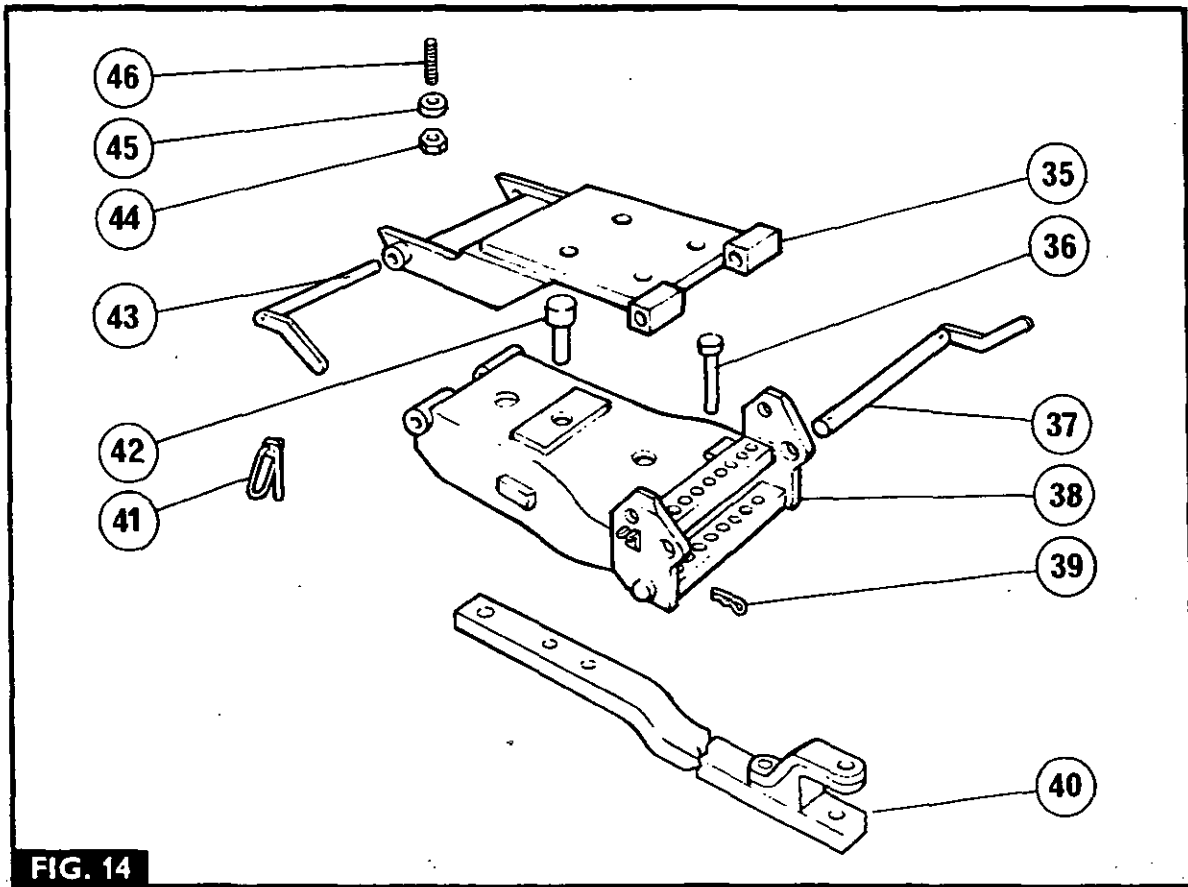
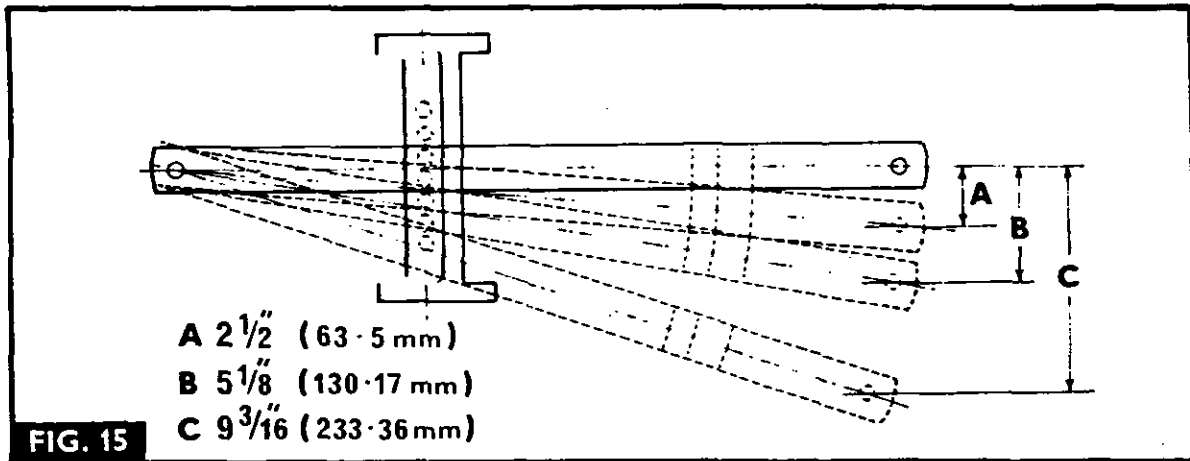
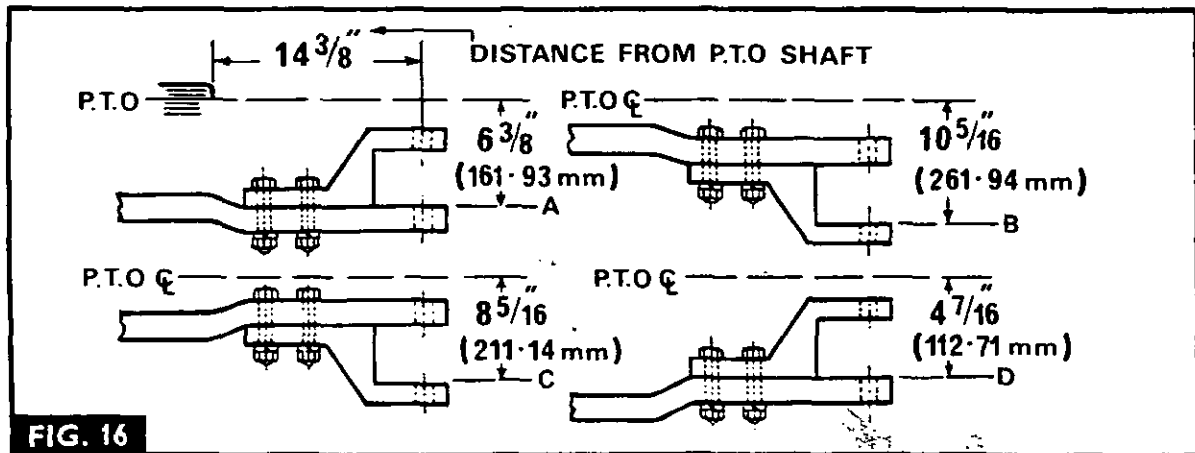

FIG. 14
FIG. 15
FIG. 16
3. Fig 14. Screw the  $\frac{3}{4}$  UNC ends of the four studs (46) fully into the tapped holes in the centre housing.
5. Fig 15. Slide the drawbar assembly (40) into the mounting frame (38), fitting the drawbar pin (42), the locating pins (36) and the hairpins (39).
6. Place the mounting frame and drawbar assembly on a jack and raise it into position secure it with the front support pin (43) and the rear pin (37), securing them with a linch pin (41).
**Offset:** Fig. 14 and 15 Remove the linch pin (41) and withdraw the support bar (37), thus freeing the drawbar frame. Remove the two hairpins (39) and the locating pins (36) then reset the drawbar in the required position. Refit the locating pins (36), the hairpins (39) to secure the drawbar, then refit the rear pin (37) and the linch pin (41).
**Length:** Remove the linch pin (41) and the support bar (37). Push the drawbar anchor pin (42) upwards this freeing the drawbar. Adjust the drawbar for length, refit the anchor pin (42), raise the drawbar frame, then refit the rear pin (37) and the linch pin (41).
**Height:** Fig 16. The drawbar can be adjusted as shown, but the bolts must be kept tight.
2. Fig. 14. Place a hydraulic jack under the drawbar frame, then remove the linch pin (41) and the support bar (37), Lower the support bar to the ground.